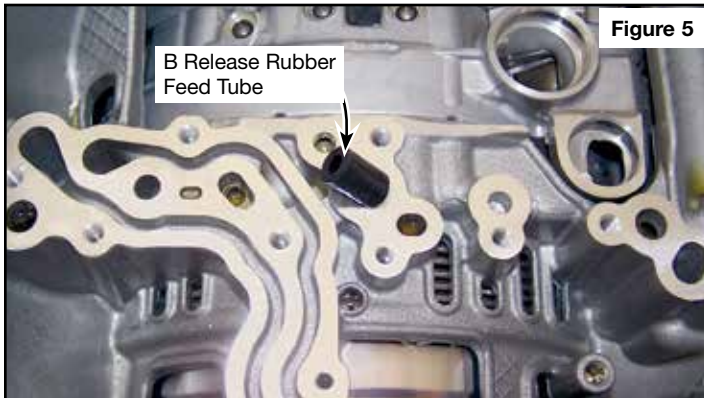

Figure 5
- Remove valve body from case. Note the location of B release tube in case under valve body in case the tube comes out of its location when the valve body is removed (Figure 5).